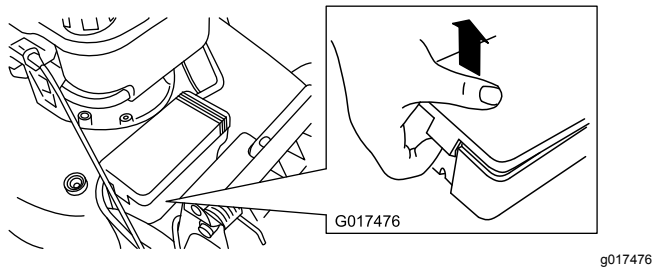

Figure 29
2. Unclip both ends of the battery cover and remove it (Figure 29).